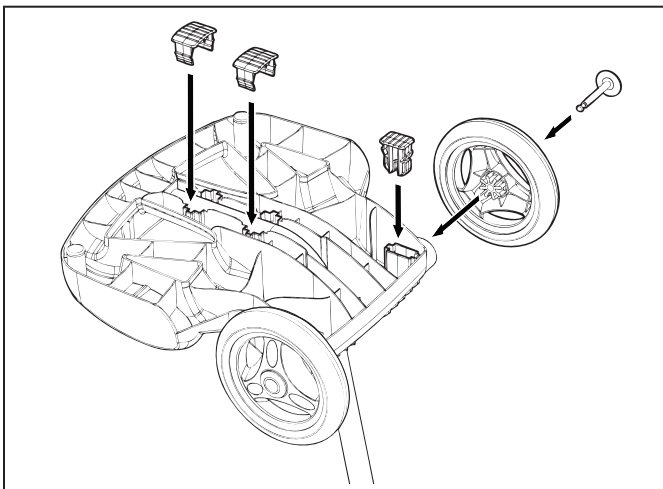

Figure 5. Snap in Support Blocks and Attach Wheels
- Snap two support blocks into place (Figure 5).
- Slide axle and hubcap piece through center of wheel and attach to base unit. Snap locking clip into place to secure wheel. Repeat to attach both wheels (Figure 5).